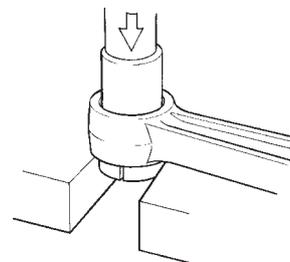

Fig. 47. Pressing out the gudgeon bushing
1. Press out the old bushing as per Fig. 47.